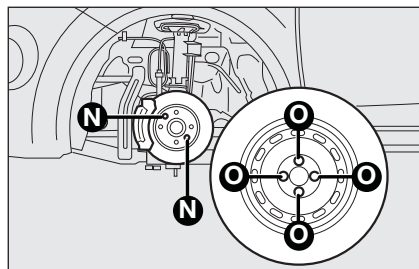

fig. 7
- ☐ fit the space-saver wheel, ensuring that the pin **N**-fig. 7 is aligned with one of the wheel holes **O**;